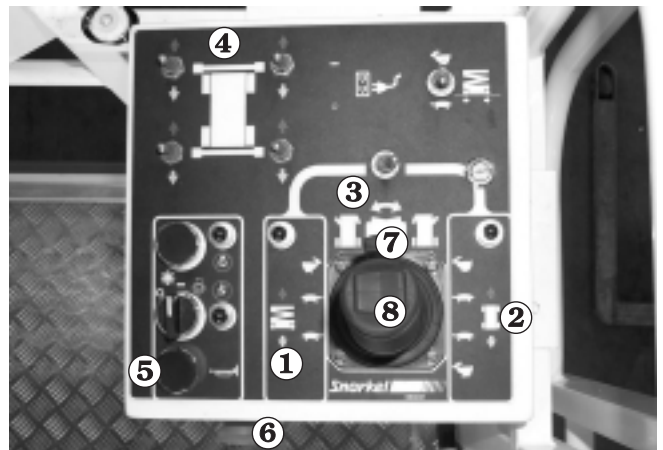

Figure 7.28 - Platform Controls
Check all of the lift **1**, drive **2**, steer **3**, and outrigger (**4**, if present) functions from the platform control box to see that they cause the SR to move the way it should (see Figure 7.28). (for correct operating procedures see the "Operation" chapter 8).
Press the operator horn **5** (see Figure 7.28) to see that it works.
Pay particular attention to the **Emergency Stop switch ⑥** to see that it turns the engine off when struck (see Figure 7.28).
Pay particular attention to the **Safety Control ⑦** to see that it deactivates the **Joystick Controller ⑧** when the safety control ⑦ is released (see Figure 7.28).